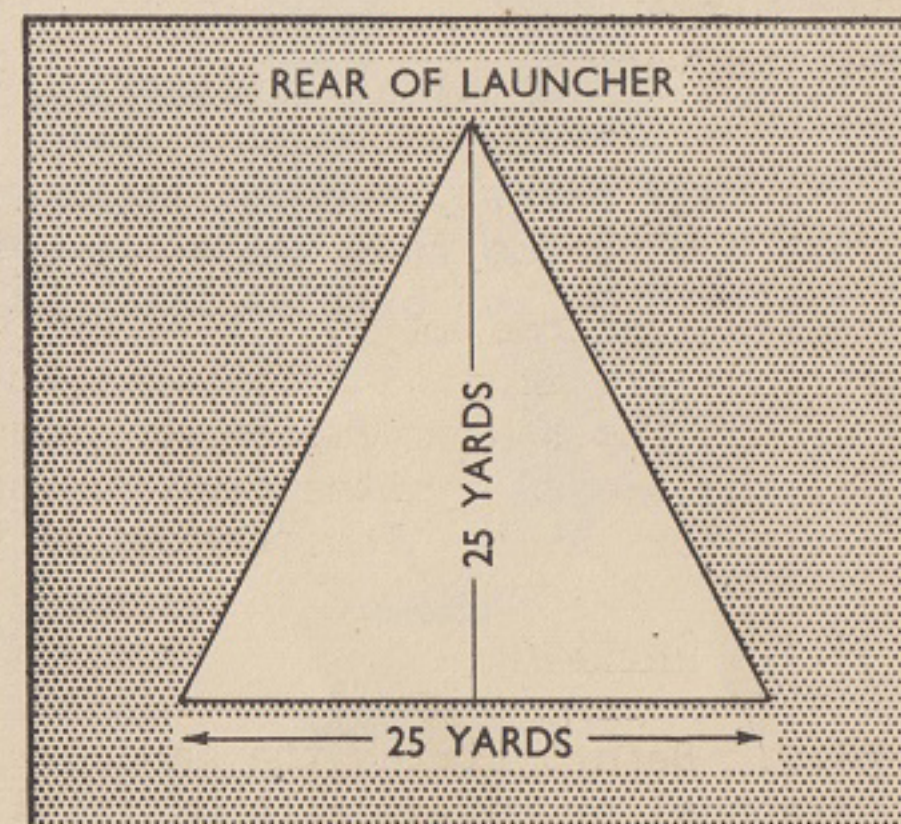

Fig. 21 Danger Zone
34.2. Before firing the launcher, the area behind it within a distance of 25 yards must be clear of personnel or inflammable material. The danger zone is a triangular area with a base and height of 25 yards (Fig.21).